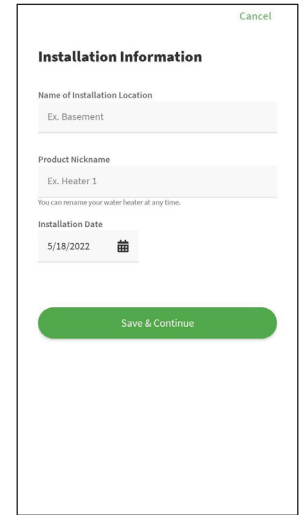

Figure 138 - Installation Information
- 2 Input the required installation information (Figure 138). You may rename the water heater at any time.